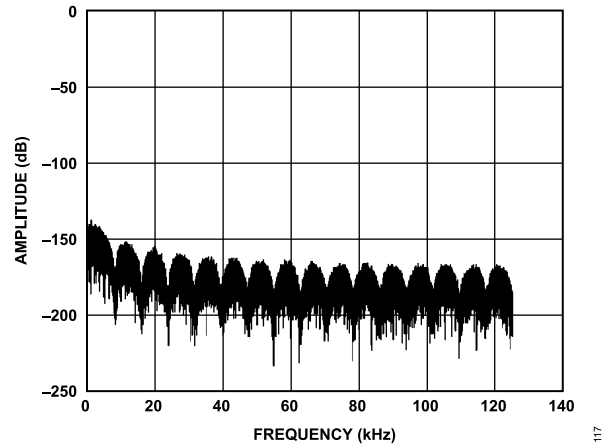

Figure 117. Example Filter Profile Upload
The following sequence programs a sinc1 filter. The coefficients in Address 0 to Address 23 = 0. The coefficients from Address 24 to Address 55 = 131,072 ($2^{22}/32$). When MCLK = 16.384 MHz and ODR = 256 kSPS, the filter notch appears at 8 kHz and multiplies of 8 kHz. This filter provides low noise and is recognizable by the distinctive filter profile shown in Figure 117.
17. Gather data. The resulting filter profile is shown in Figure 117.